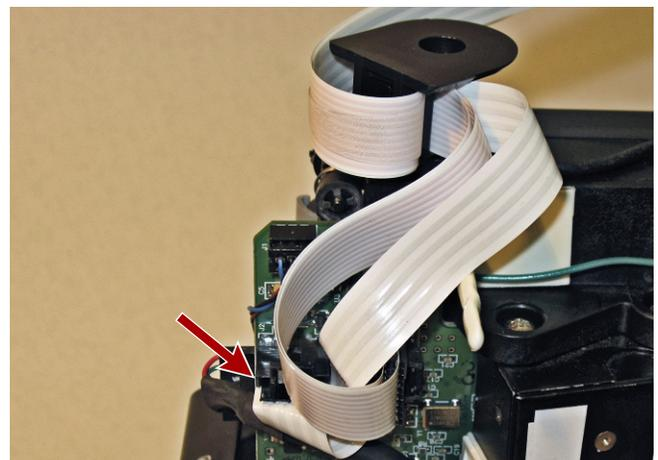

Figure 12. Connect the Power Cable
- c. Carefully, without bending the cable, insert the **Power connector** into J2 (Figure 12).